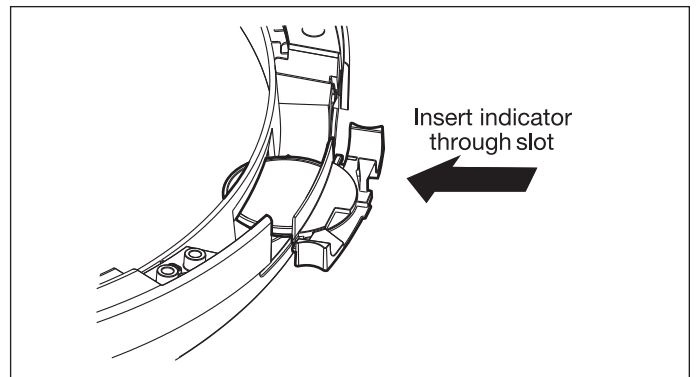

Figure 2-39.
2. Grasp the indicator between finger and thumb and slide it through the opening. (See Figure 2-39)